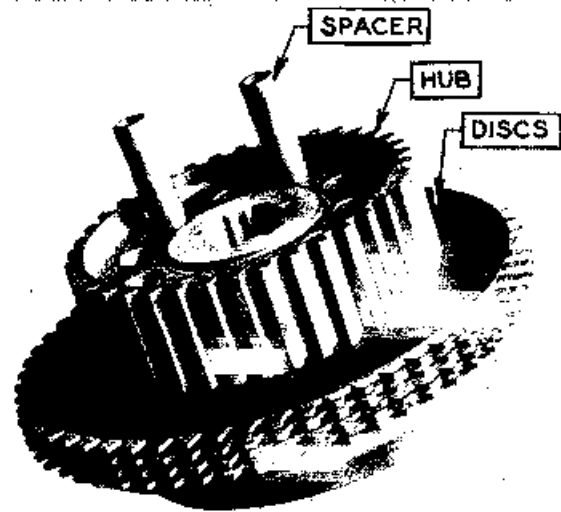

FIG. 18
5. Hold shifter plate firmly in place and turn hub assembly so that shifter plate is now on bench. Figure 18.
through center of springs. Figure 18.
7. Stack discs alternately on hub beginning with a friction disc. Figure 18.